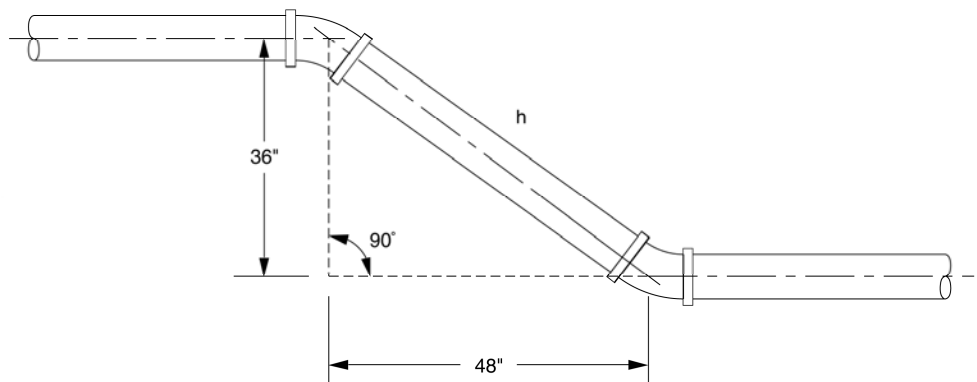

Figure 3-5. Calculate the hypotenuse of the right triangle using squares and square roots.
10. Calculate the hypotenuse (travel) of the triangle shown in Figure 3-5 using squares and square roots.